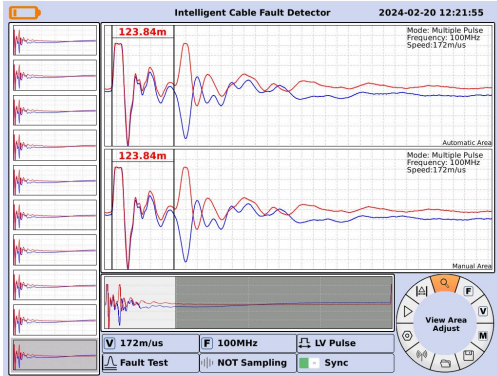
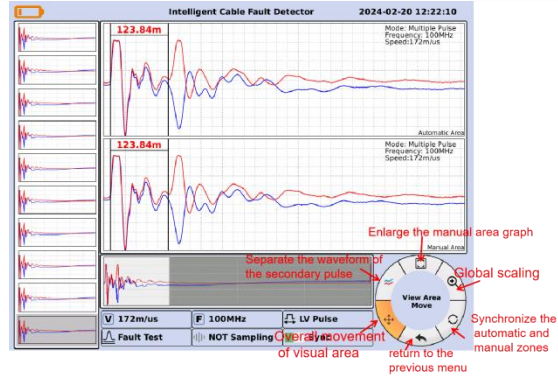

Figure 3.9 Main Menu for View Adjustment
Figure 3.10 View Adjustment Interface
As shown in Figure 3.9, rotate the ⑪ "Optoelectronic Rotary" to move the focus, then press the button to enter the view adjustment interface. Rotate the knob to compress or stretch the waveform, as shown in Figure 3.10.